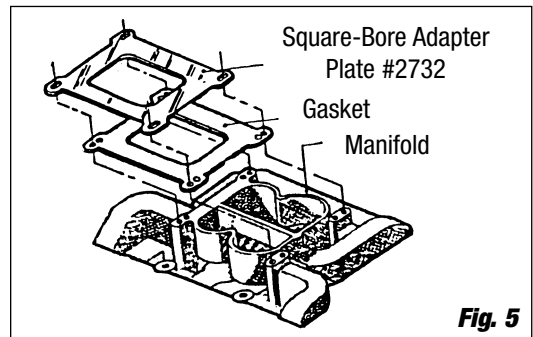

Fig. 5
5. **You must use Edelbrock Adapter #2732** when installing a Performer Series carburetor on certain Edelbrock intake manifolds. In those applications, install the adapter as shown (See Fig. 5).